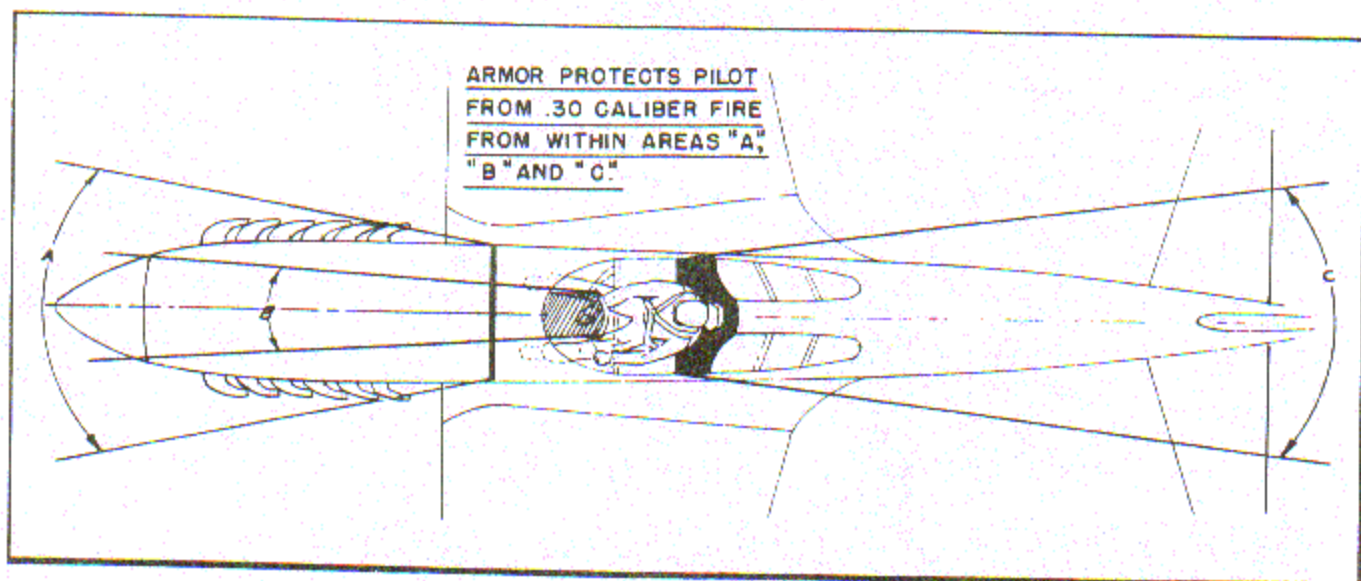

Figure 17 - Angles of Armor Protection - Top View
c. The areas of protection for the pilot are shown in figures 17 and 18.